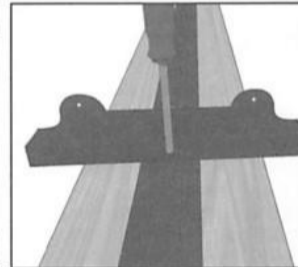

Figure 4A
**STEP 4** Taking a piece of 1" x 6" fence boards or 5/4" deck boards, cut to length 1/16" to 1/8" inches shorter than the distance of the opposing brackets. Fit the boards onto the brackets, and secure with the mounting screws supplied (#8, 5/8 inch) (*Figure 5*). Ensure the mounting bracket screw slots are facing inside your enclosed area (*Figure 4A*).